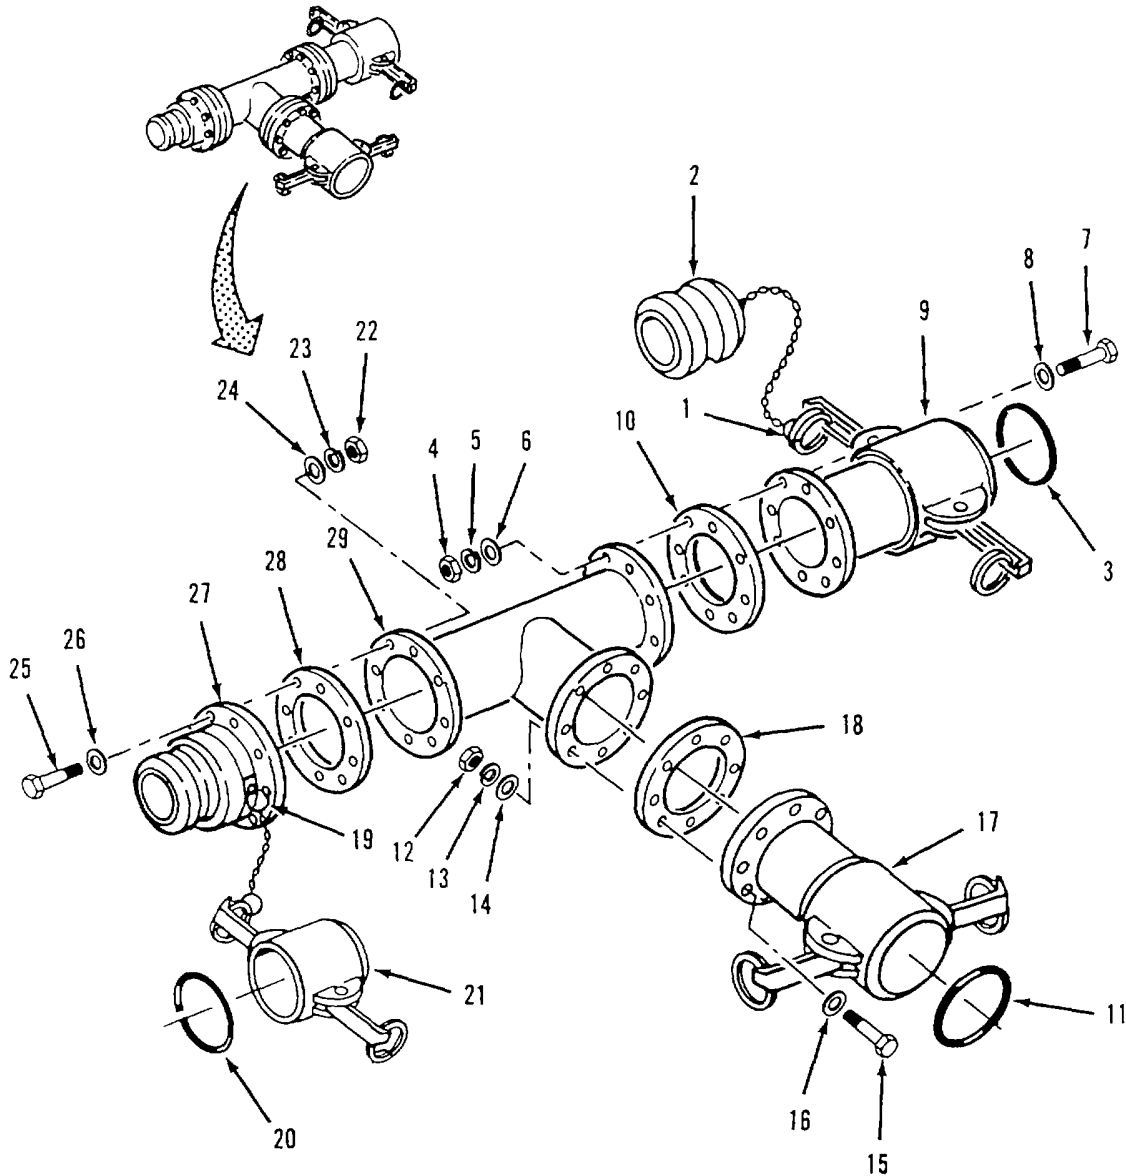

Figure 4-38. Tee Assembly (9115-Y) Disassembly.
- a. Disassembly. Refer to figure 4-38.
- (1) Disconnect ring (1) from female coupling (9) and remove plug (2).
- (2) Remove gasket (3) from female coupling (9).
- (3) Remove eight nuts (4), lockwashers (5), flat washers (6) and screws (7) and flat washers (8).
- (4) Separate female coupling (9) and gasket (10) from tee (29).
- (5) Remove gasket (11) from female coupling (17).
- (6) Remove eight nuts (12), lockwashers (13), flat washers (14), screws (15) and flat washers (16).
- (7) Separate female coupling (17) and gasket (18) from tee (29).
- (8) Disconnect ring (19) from male coupling (27) and remove cap (21).
- (9) Remove gasket (20) from cap (21).